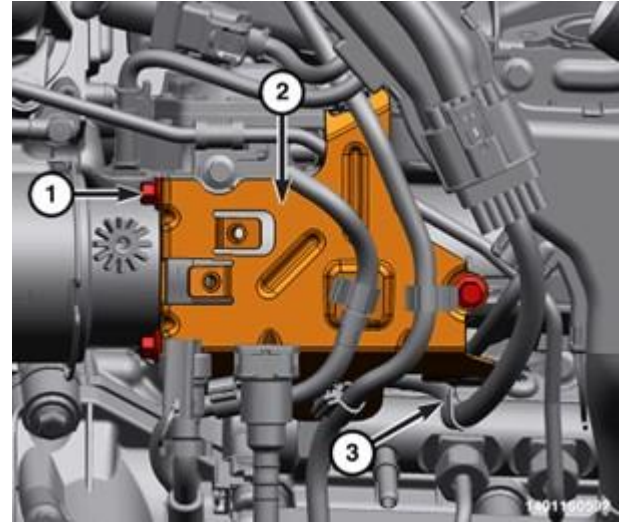

Figure 160 – Return Hose Retainers
- 25. Detach the wire harness retainer (3) (Figure 160).
- 26. Remove the bolts (1) fuel line support bracket (2) (Figure 160).